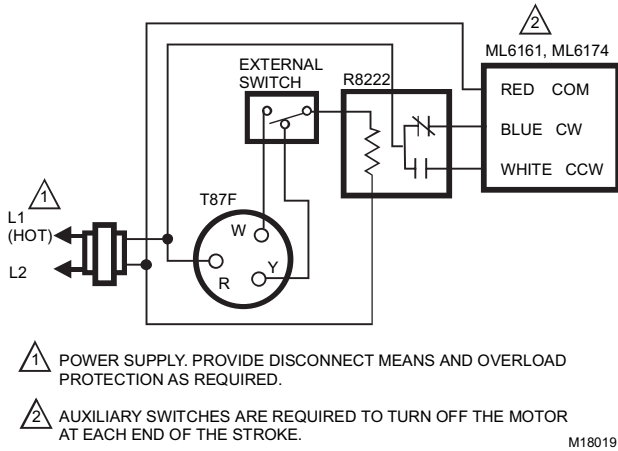
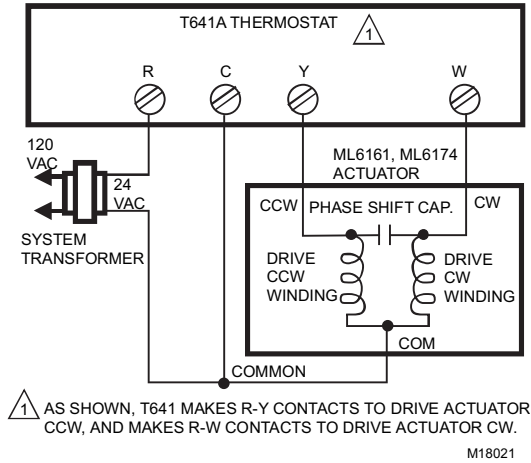

Fig. 11. ML6161 or ML6174 used with T87F in heating-only or cooling-only application.
Fig. 16. T641A controlling ML6161 or M6174 Actuator.
All wiring must comply with local electrical codes, ordinances and regulations. Voltage and frequency of the transformer used with the actuator must correspond with the characteristics of both the power supply and the actuator. Screw terminals are provided for easy hookup. See Figures 11 through 14 for typical wiring hookups.
4. Run the connecting wire through the conduit connector, strip the wire ends (if necessary) and connect to the CW, COM and CCW terminals using Figures 11 through 14, Figures 16 through 20, or the control manufacturer instructions.
The T641 is a mercury bulb floating-control type thermostat designed for use with the seven-minute model on pressure-dependent systems (see Figures 16 and 17).